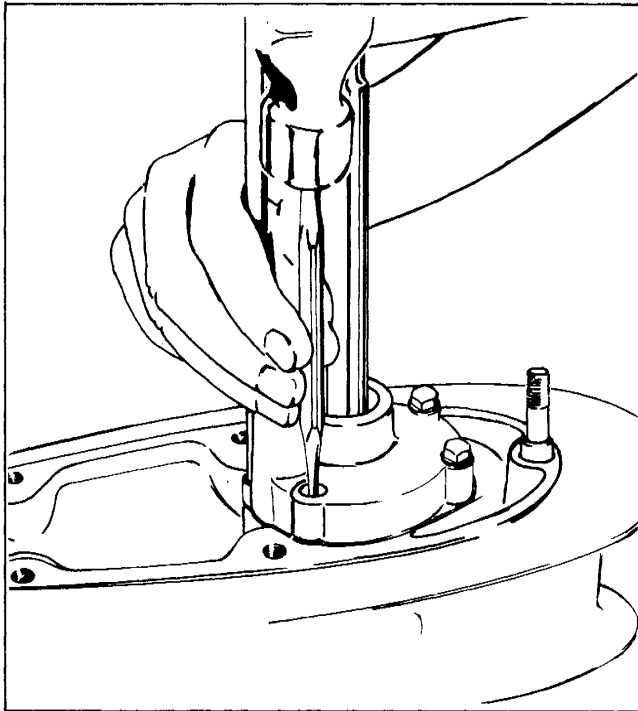

FIGURE 1
4. Determine the center point for fourth mounting hole. Use a punch to mark this location. See Figure 1.
12. Apply a thin bead of RTV silastic sealer to gearcase where impeller plate will be mounted. See Figure 1. RTV is available from your parts distributor under part number 263753. RTV is also sold through local hardware stores as General Electric silicone bathtub caulk.